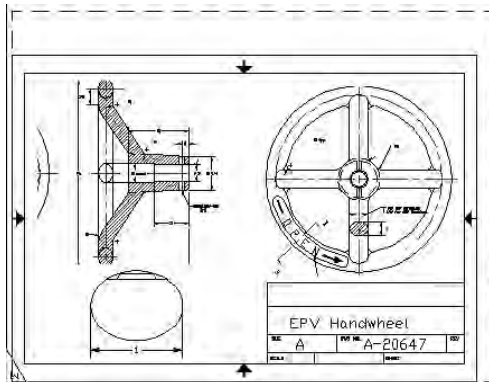

Figure 17-13: The completed drawing layout is now ready for plotting.
14. Double-click each viewport in turn to switch to model space and pan until you see the view shown in Figure 17-13. It doesn't have to match exactly. If you want, you can resize the viewports to fit the models better.
18. Choose Draw ⇄ Text ⇄ Single Line Text. Complete the text in the title block at the default height, as shown in Figure 17-13.